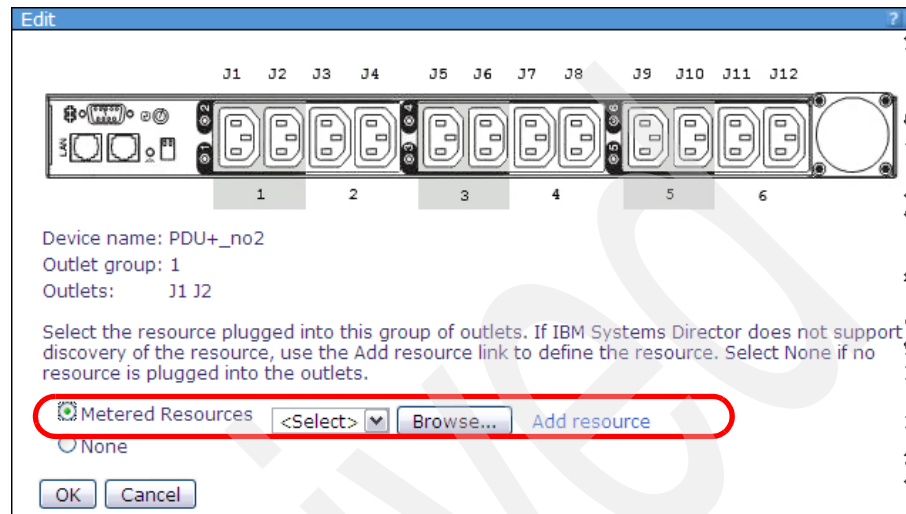

Figure 8-22 Assign a managed device to Outlet Group 1
3. In the Outlet Group 1 Edit task, select **Metered Resources**, and then click **Add resource** to create a managed system as a metered resource, as shown in Figure 8-22. If the metered resource already exists, click **Browse** to find it.